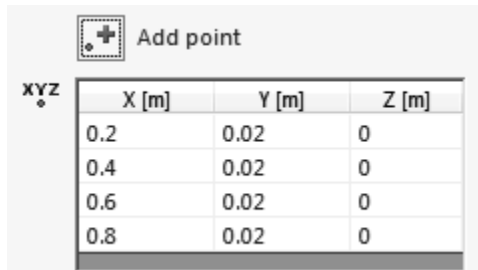
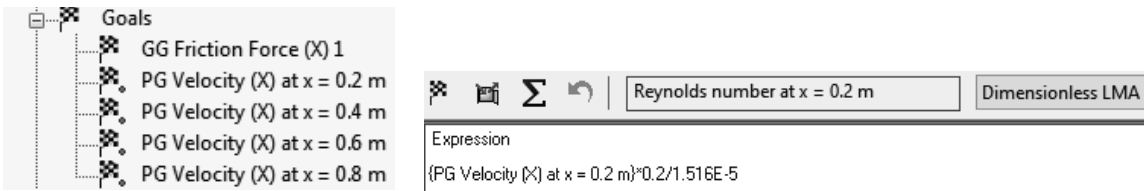

Figure 2.21e) Coordinates for point goals
Figure 2.21f) Renaming the point goals      Figure 2.21g) Entering an equation goal
21. Right click on **Goals** in the **Flow Simulation analysis tree** and select **Insert Global Goals...** Select **Friction Force (X)** as a global goal. Exit the **Global Goals** window. Right click on **Goals** in the **Flow Simulation analysis tree** and select **Insert Point Goals...** Click on the  $\begin{matrix} x \\ y \\ z \end{matrix}$  **Point Coordinates** button. Enter **0.2 m** for X coordinate and **0.02 m** for Y coordinate and click on the **Add Point** button  $\begin{matrix} + \\ \cdot \end{matrix}$ . Add three more points with the coordinates shown in figure 2.21e). Check the **Value** box for **Velocity (X)**. Exit the **Point Goals** window. Rename the goals as shown in figure 2.21f). Right click on **Goals** in the **Flow Simulation analysis tree** and select **Insert Equation Goal...** Click on **PG Velocity (X) at x = 0.2 m** goal in the **Flow Simulation analysis tree**, multiply by  $0.2$  (for  $x = 0.2$  m) and divide by  $1.516E-5$  (kinematic viscosity of air at room temperature ( $\nu = 1.516E-5$  m2/s) to get an expression for the Reynolds number in the **Equation Goal** window, see figure 2.21g). Select **Dimensionless LMA** from the dimensionality drop down menu. Exit the **Equation Goal** window. Rename the equation goal to **Reynolds number at x = 0.2 m**. Insert three more equation goals corresponding to the Reynolds numbers at the three other  $x$  locations. For a definition of the Reynolds number, see page 2-21.